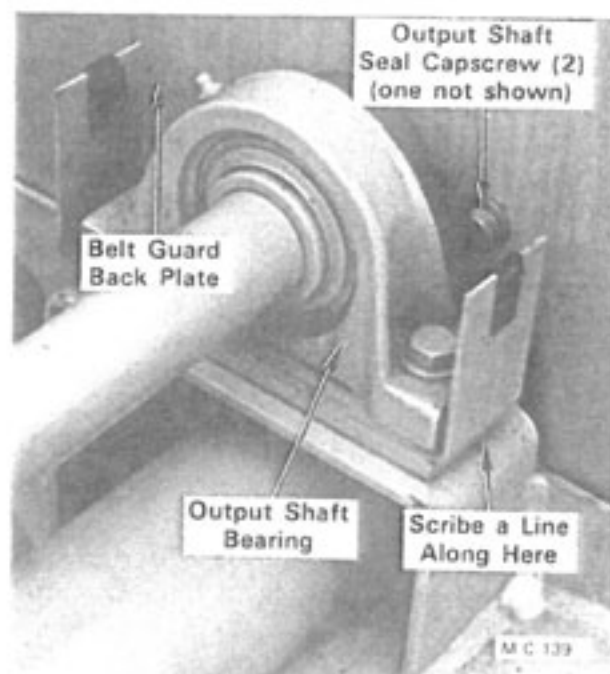

Figure 32
5. Scribe a line on the output shaft bearing mounting bracket as shown in Figure 32 to establish the location of the new bearing when reassembling.
10. Install the drive belts. Install the output shaft seal, see Figure 32.
flatwashers, lockwashers and hex-nuts. Align the edge of the output shaft bearing with the mark scribed on the mounting bracket made in step 5, see Figure 32. Tighten the output shaft bearing capscrews and set screws in the bearing collar.